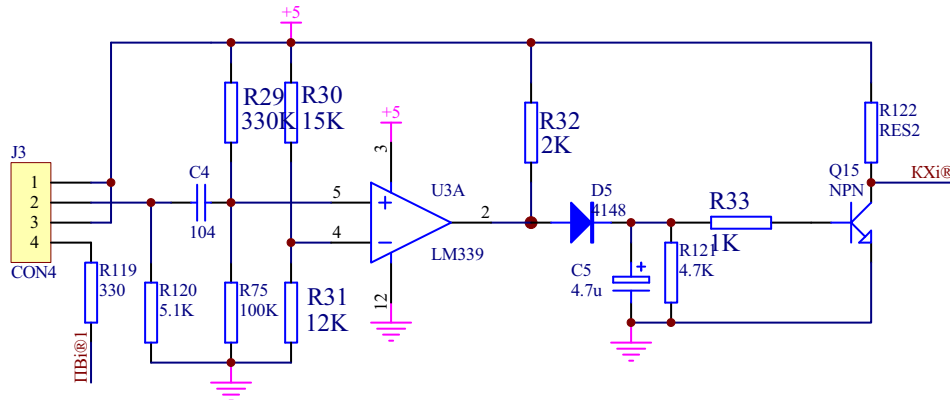

Fig.22B Stacker Sensor Circuit Diagram
(2) NEW PRO85,PRO85U Circuit (Fig.22B)